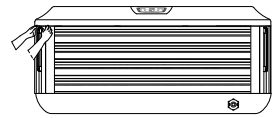
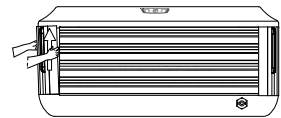

Figure 1
Figure 2
1. Grab one of the corner panels, from the top, where it touches the shell. Then gently pull the panel forward to unsnap it from the holding clips, Figure 1. Tilt the panel forward and then lift up to remove, Figure 2. Place the panel in a safe location to prevent from damaging it. Repeat the steps to remove the other corner panel.